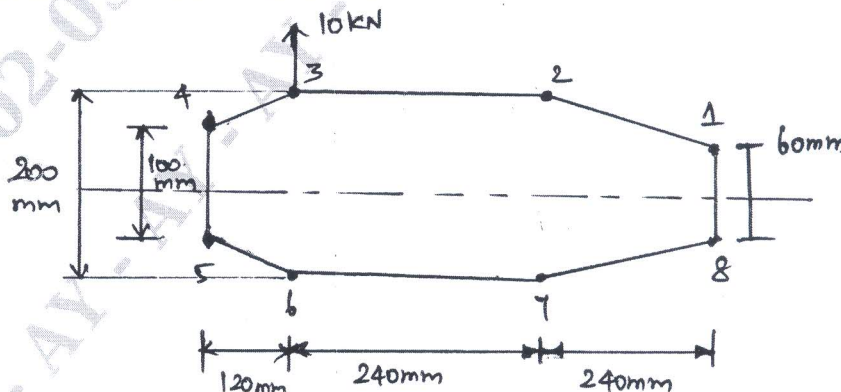

Fig Q3
- 3 The thin walled single cell boom shown in Fig Q3 has been idealized in to a combination of direct stress. Carrying booms and shear stress only carrying walls. If the section supports a vertical shear load of 10kN acting in a vertical plane through booms 3 and 6. Calculate the distribution of shear flow around the section.